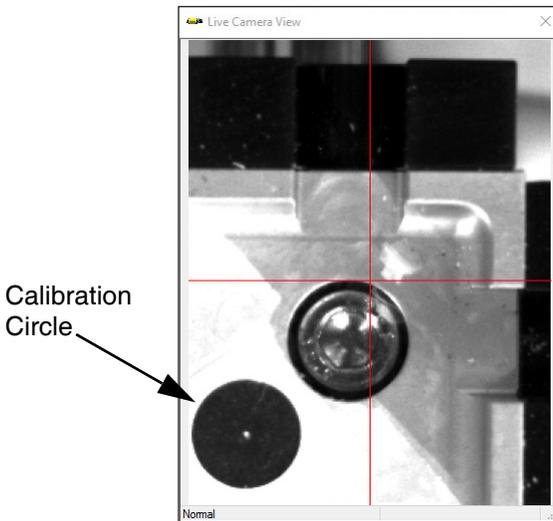

Fig. 12: Calibration Circle
- Use the jogging controls to select the Needlefind Sensor Locations for X, Y, and Z ①. Select the Here button next to the parameter after each location is selected.
8. Use the jogging controls to select the Circle Calibration Needle Locations (X,Y,Z) . This is done by touching the needle down in the center of the calibration circle. Center the needle in the white dot as shown in **Figure 12** (this is a view of the white dot through the camera).